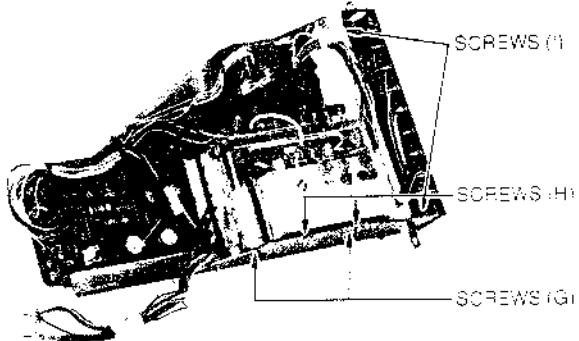

Figure 5.
3-5. VHF/UHF TUNER REMOVAL (See figure 5)
1. Detach the CRT ground lead from CRT SOCKET BOARD (see figure 5).
3-6. KEY BOARD REMOVAL (See figure 5)